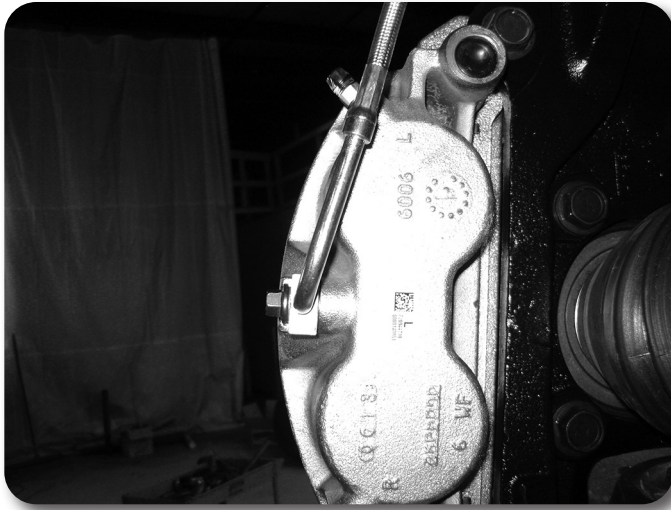

Figure 41C
62. Locate the new provided stainless steel brake lines. The lines are driver's and passenger's side specific. The caliper end has a offset angle. When install the hard line at the caliper should point slightly inward toward the steering knuckle. Identify the appropriate lines. Figure 41C - Drv's Side Shown